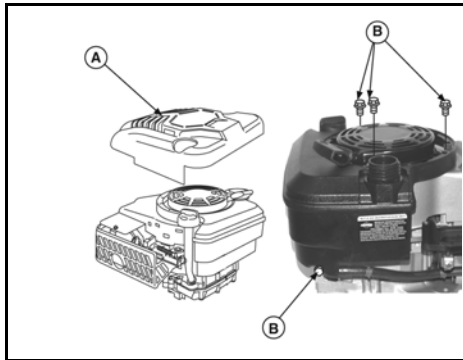

Figure 5
3. Remove screws and/or pry off the decorative cover (A, Figure 5) installed on the blower housing.
4. Remove screws (B) around the rewind starter and at the bottom of the tank. Release clamp and pull hose off tank fitting, then lift tank off engine.